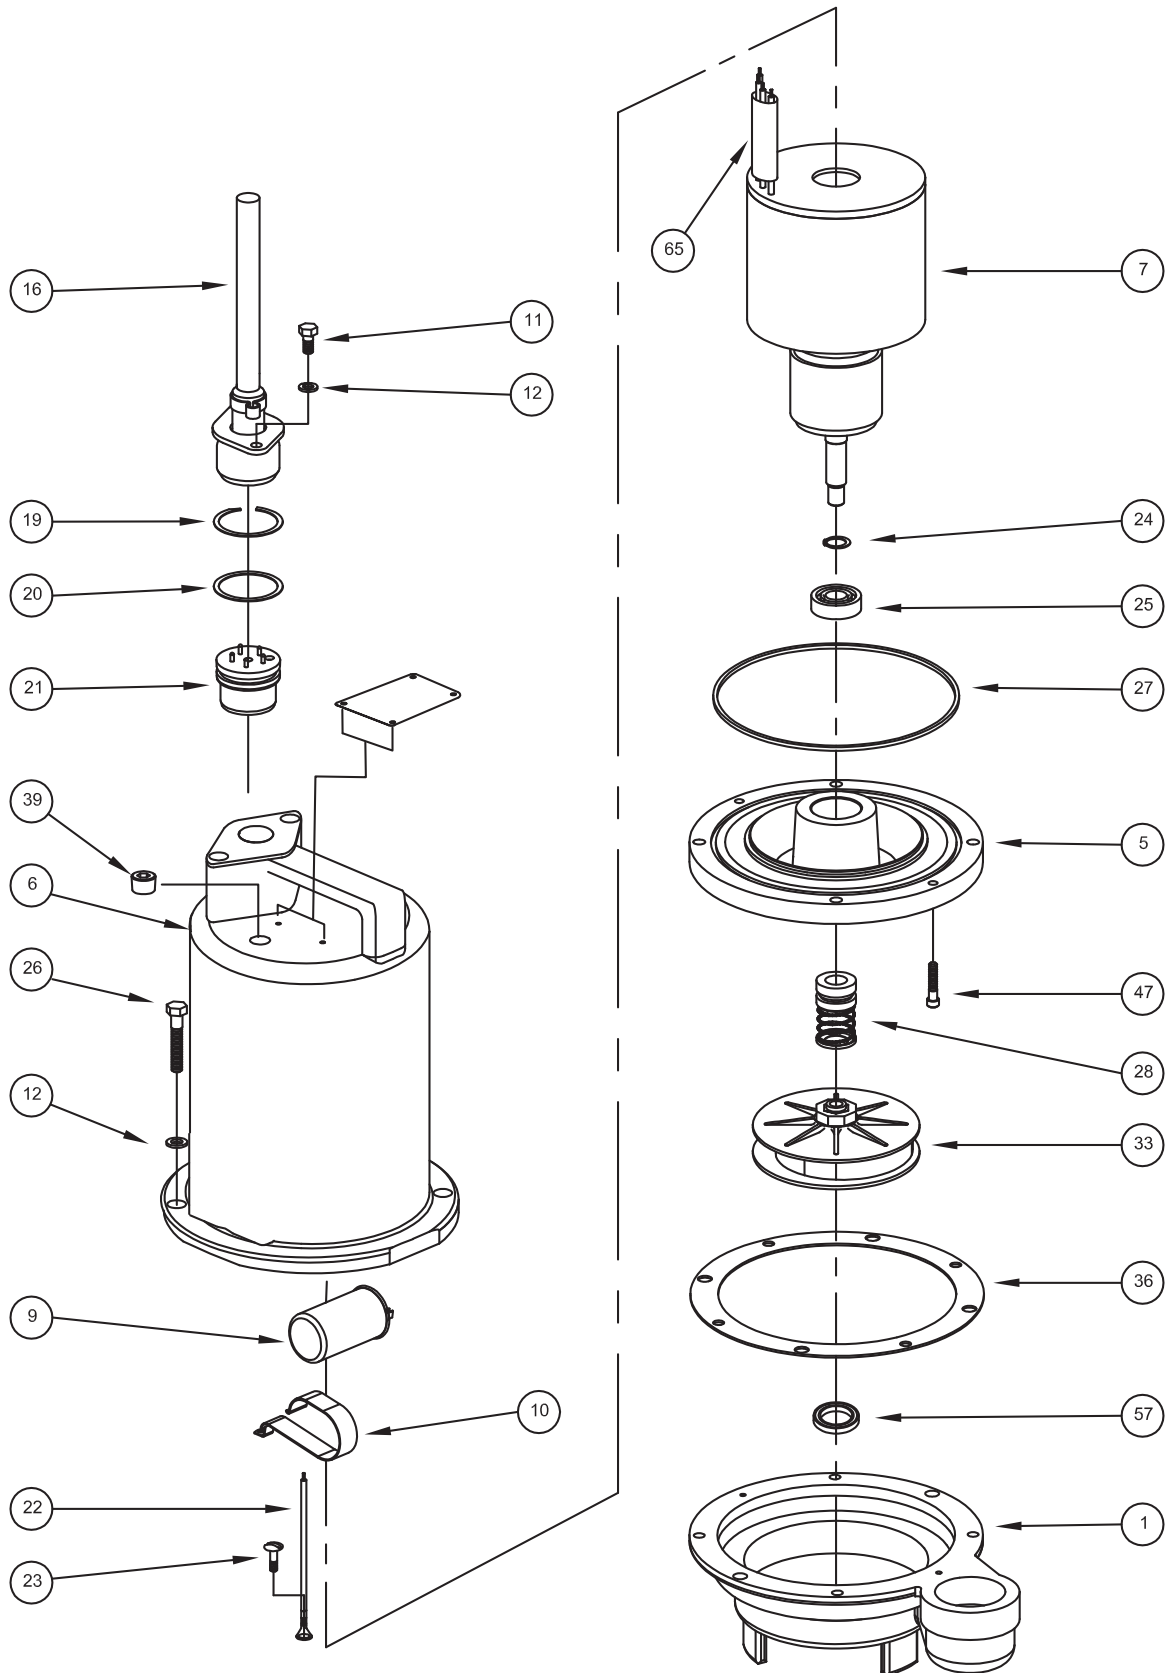

FIGURE 18
Moisture Sensors - If pump is equipped with optional moisture sensors, reassemble by applying thread compound to threads on probes (4) and install in upper seal plate (5), see Figures 18 & 19. Connect wire assemblies (53) to probes (4) with washers (46) and machine screws (45).